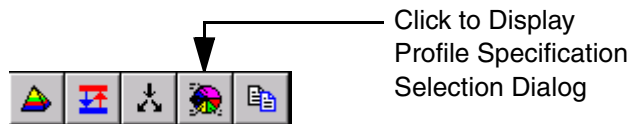

Figure 70. Profile Specification Icon on Legend Toolbar
1. Click the Profile Specification (pie-shaped) icon located either in the legend, or on a separate toolbar, Figure 70.